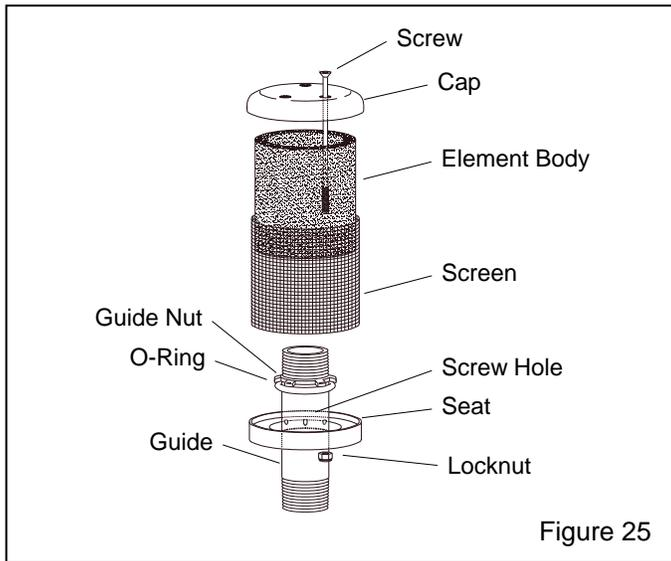

Figure 25
**6.9 Exhaust Muffler - Figure 25**
**6.9.7** Reassemble, taking care to correctly insert the screws in the seat plate. The screw holes are the three closest to the center. Refer to the illustration in Figure 25.